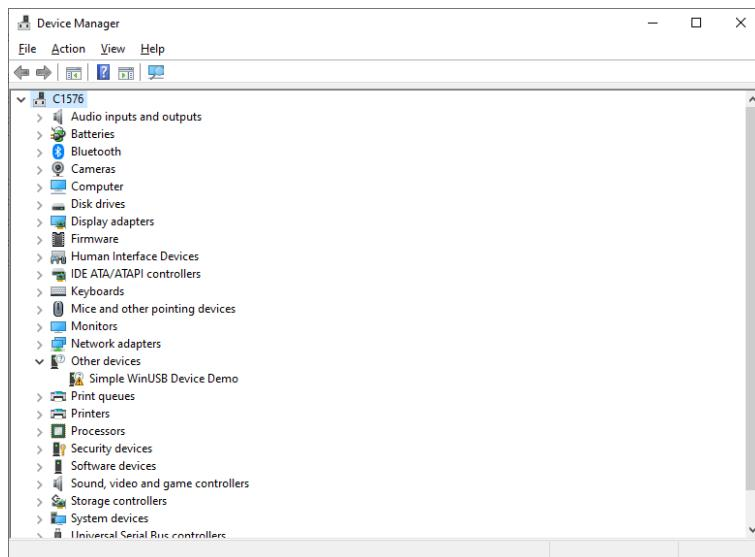

Fig. 10.9: Device Manager window with the USB driver not yet installed.
3. From the "Device Manager" window, right click on the "Simple WinUSB Device Demo" item in the "Other devices" list (see Fig. 10.9) and select the "Upgrade Driver" option.